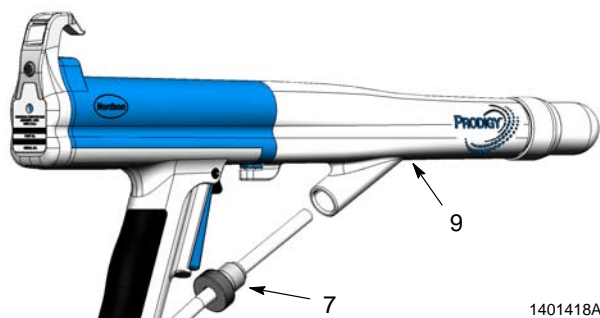

Figure 1 Disconnecting the Powder Tubing
1. See Figure 1. Unscrew the lock knob (7) and pull the powder tubing out of the adapter (9).
6. See Figure 1. Push the powder tubing into the adapter until it bottoms out. Screw the lock knob into the adapter until snug to secure the tubing.